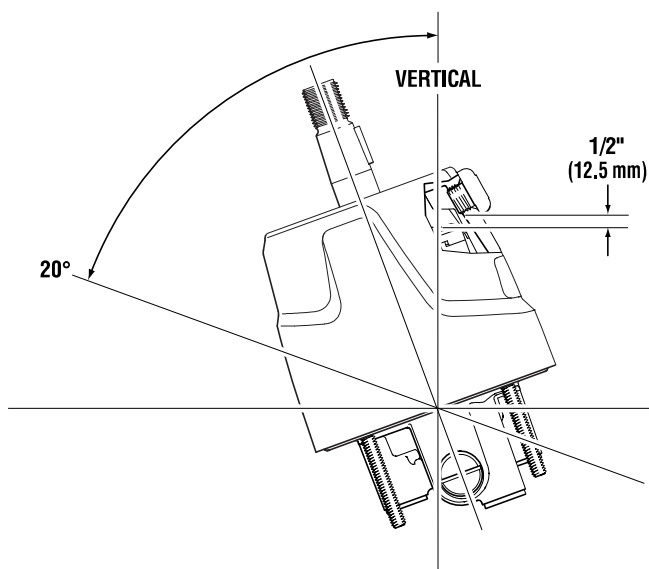

Figure 4-18.
- Helms mounted with the wheel shaft between 20° and vertical must be filled to within 1/2" of the fill port as shown in figure 4-18.